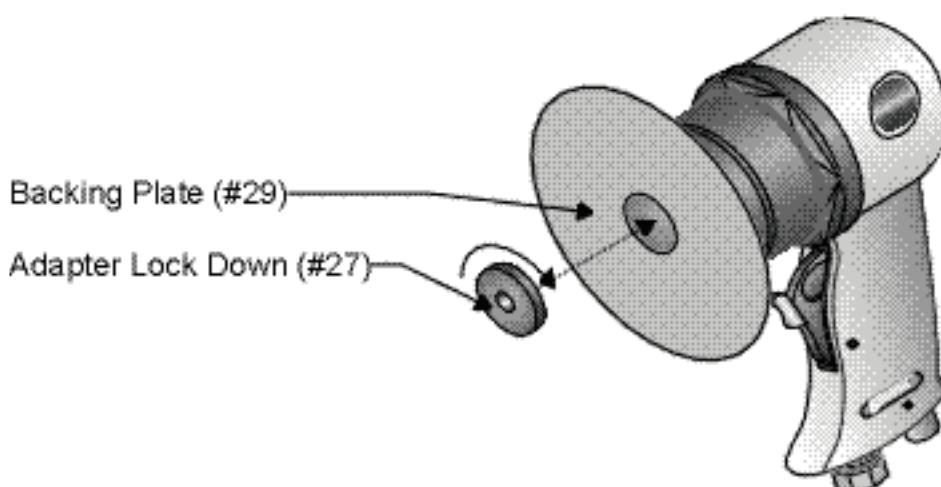

Figure 2 — Installing the Backing Plate
Step 5: Place the desired BACKING PLATE (28, 29 or 30) over the threads of the ROTOR (19). Place the sandpaper disc over the BACKING PLATE.
Step 6: Thread the ADAPTER LOCK DOWN (27) onto the ROTOR as shown in Figure 2. Tighten.